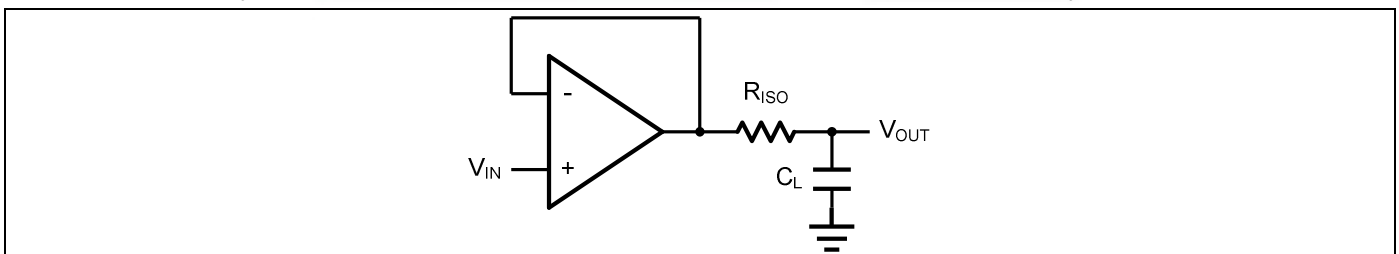
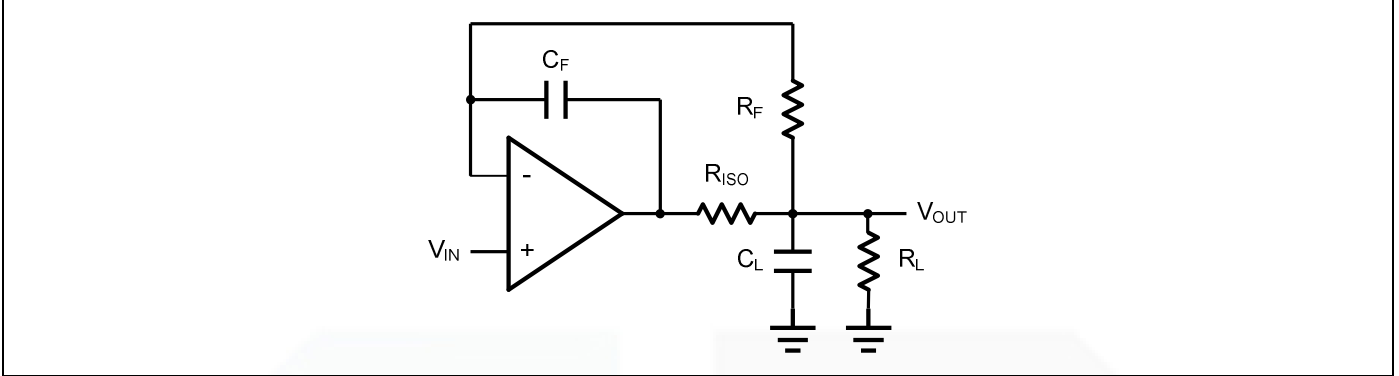

Figure 2 Indirectly Driving a Capacitive Load Using Isolation Resistor
Figure 3. Indirectly Driving a Capacitive Load with DC Accuracy
The GS6001 family is optimized for bandwidth and speed, not for driving capacitive loads. Output capacitance will create a pole in the amplifier's feedback path, leading to excessive peaking and potential oscillation. If dealing with load capacitance is a requirement of the application, the two strategies to consider are (1) using a small resistor in series with the amplifier's output and the load capacitance and (2) reducing the bandwidth of the amplifier's feedback loop by increasing the overall noise gain. Figure 2 shows a unity gain follower using the series resistor strategy. The resistor isolates the output from the capacitance and, more importantly, creates a zero in the feedback path that compensates for the pole created by the output capacitance.
The circuit in Figure 3 is an improvement to the one in Figure 2. R_F provides the DC accuracy by feed-forward the V_{IN} to R_L . C_F